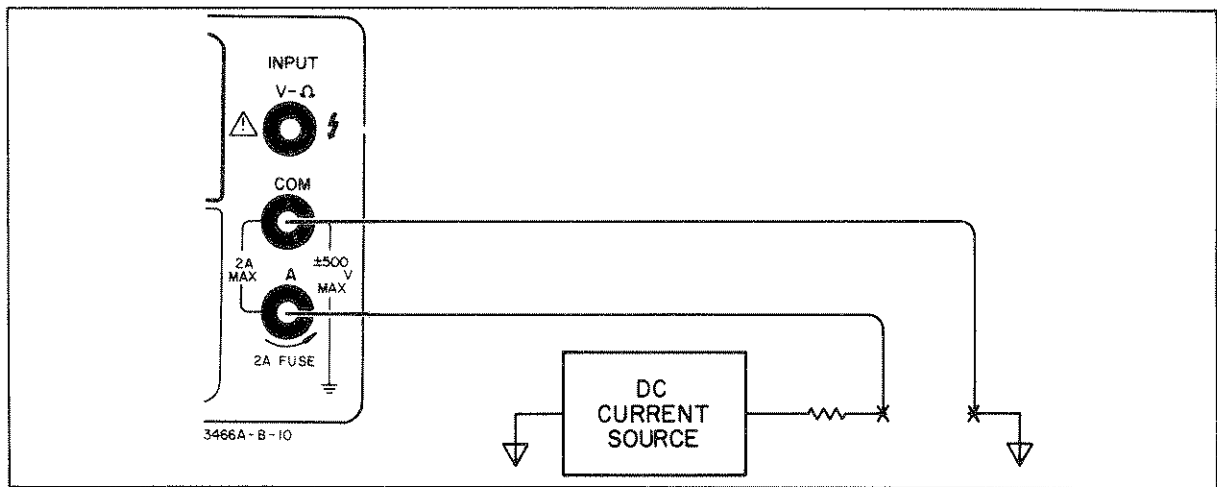

Figure 3-6. DC Current Measurements.
- c. Connect test leads from the Multimeter A and COM terminals in series with the current under test as shown in Figure 3-6.